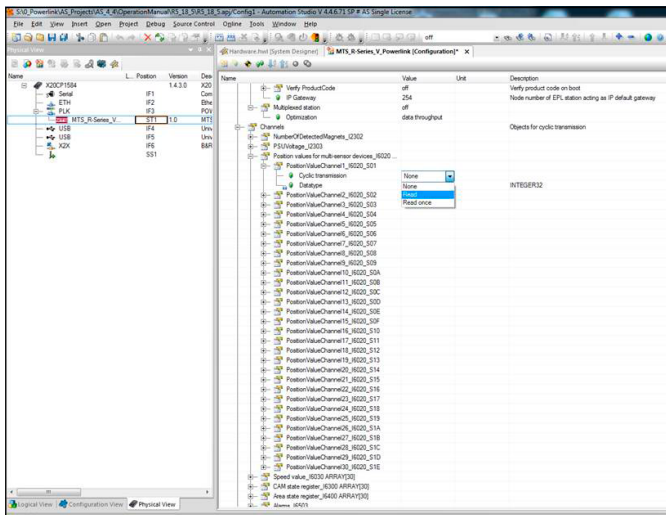

Fig. 108: Activating the mapping of the parameters of the group "Channels"
- Channels: Measurement data of the sensor, that can be transferred cyclically. To activate cyclic transmission of a specific data item, click on the data item column called "Value" and change the entry from "None" to "Read" (Fig. 108).